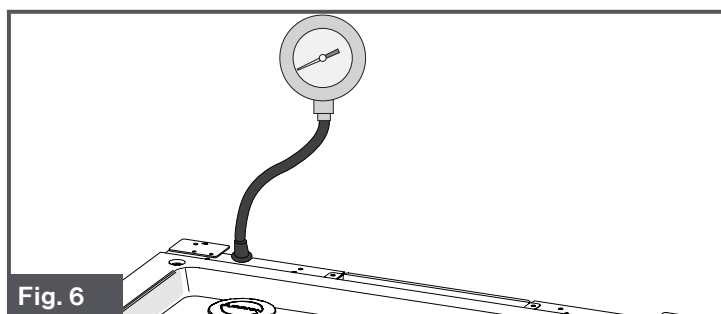

Fig. 6
7. The pressure gauge tester should measure between 10" WC to 13.8" WC. (Fig. 6)